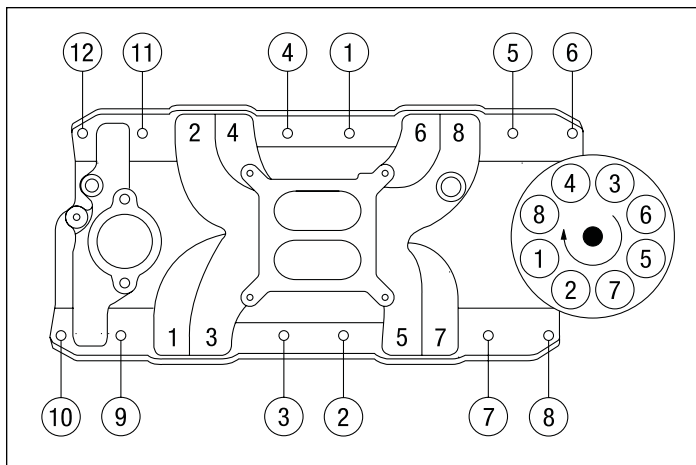

Figure 2 - Pre-1995 Manifold Bolt Torque Sequence
- 5a. Install the intake manifold and hold-down bolts. On applications with pre-1995 cylinder heads, apply a small amount of silicone to the threads of the eight inner bolts (1,2,3,4,5,7,9 & 11 in **Figure 2**) to prevent oil weepage, as generally these are not blind holes in the cylinder head. Torque all of the manifold bolts in two steps by the sequence shown in **Figure 2** to 25 ft/lbs.